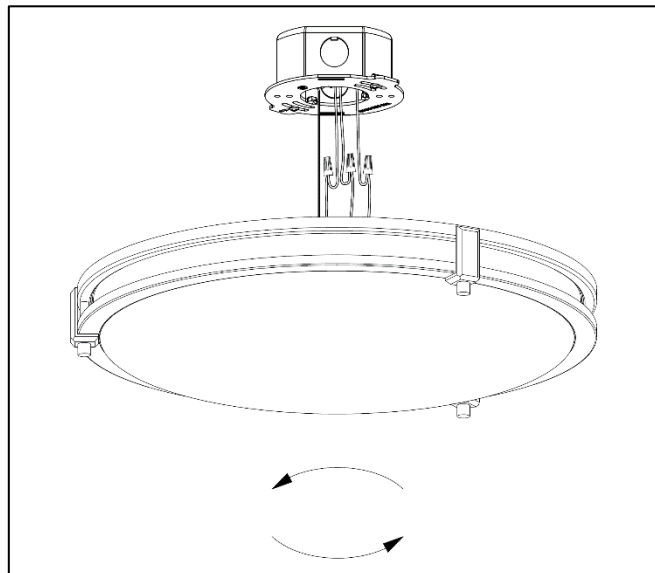
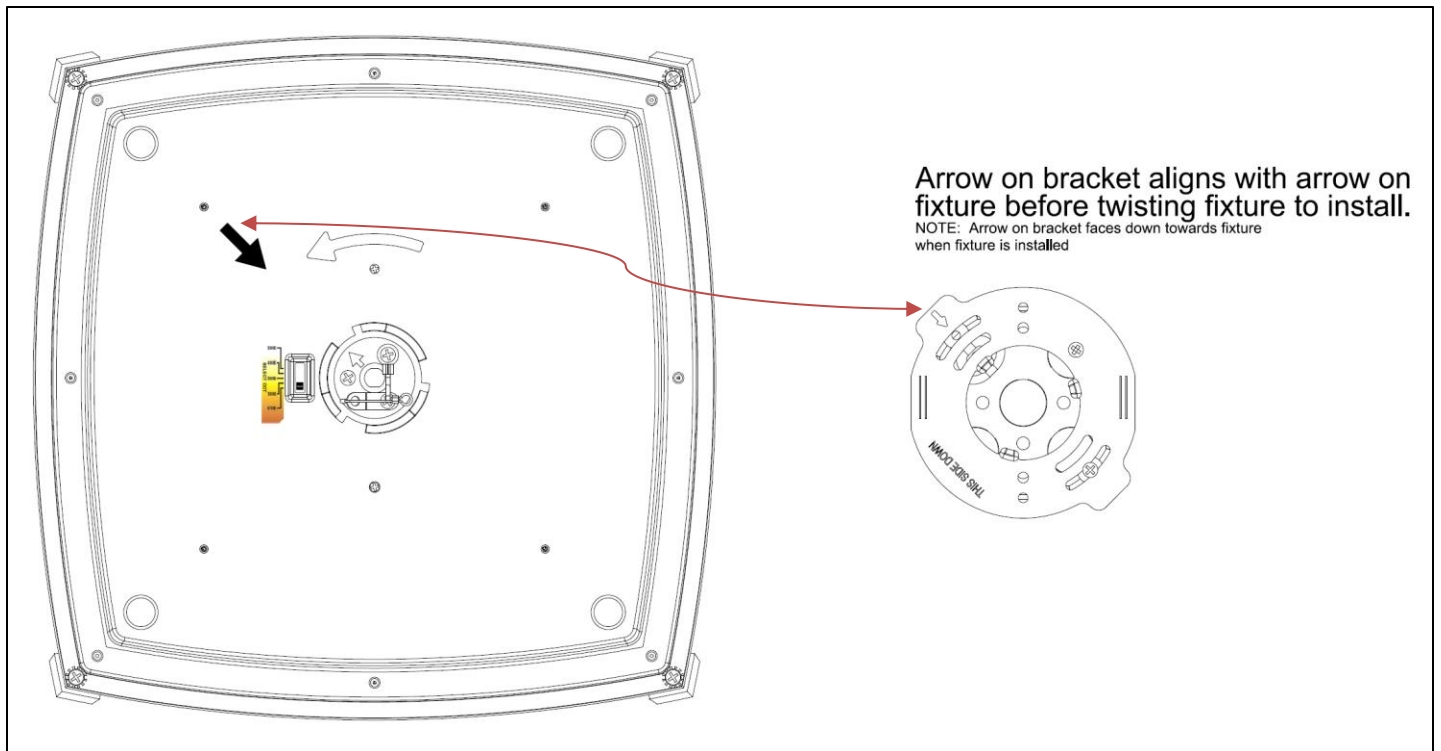

Figure 6
Figure 7
- Use Wire nuts** to connect :Black fixture wire to the Black power supply wire(Line) ; White fixture wire to the White power supply wire(Neutral), and the bare Copper ground wire from the fixture to the bare Copper ground wire from the Junction box. (If house wiring does not include a Ground wire, consult your local electrical code for approved grounding methods). **FOR PROPER CONNECTION, PLACE WIRENUT OVER WIRES, TWIST CLOCKWISE UNTIL TIGHT.** As shown in *Figure 6*.
9. **Align the straight arrow on the Mounting Puck** on Fixture Assembly **with the straight arrow on the Mounting Bracket**, as shown in *Figure 7 and Figure 6*. The Arrows on the Fixture and Mounting bracket **MUST** be aligned to install fixture properly.